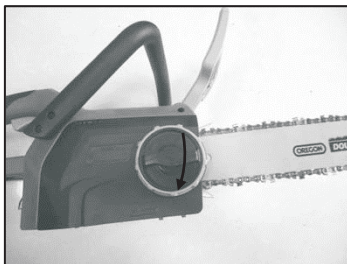

Fig.2J
8. Making sure the chain properly seated in guide bar rail and guide bar is fixed then locking knob should be rotated clockwise until it stops. (Fig.2J)